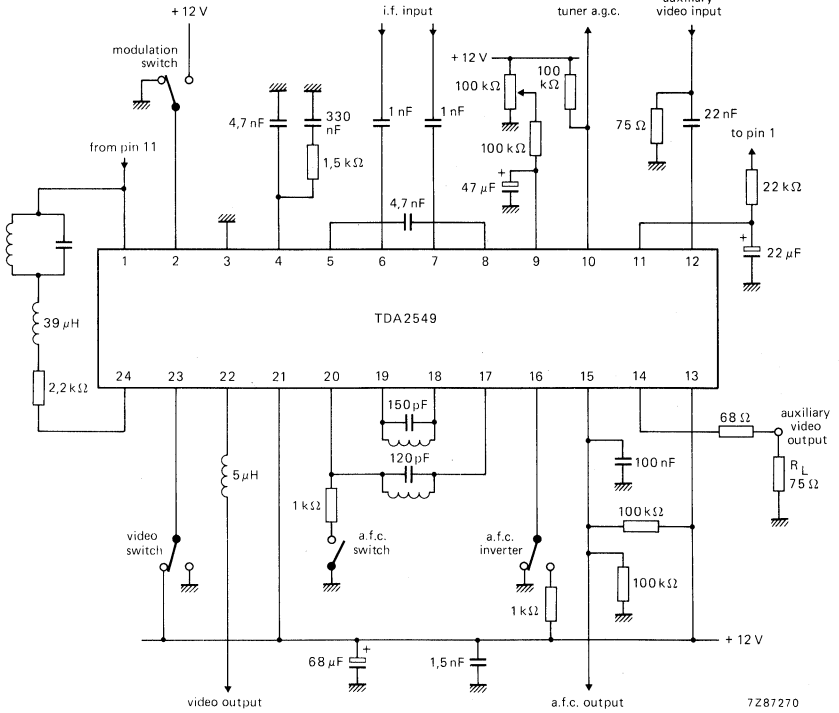

Fig. 5 Application diagram.
- Measured in application of Fig. 5.